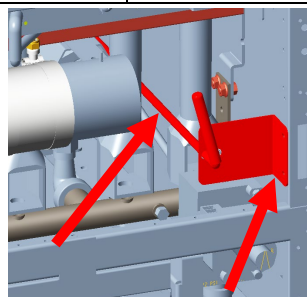

Figure 2
5. Insert the new rear oil disposal assembly into position. The handle should slide between the two far-right burners under the far-right vat in the fryer battery (see Figures 2 & 4). The bracket should be mounted to the right upright frame. (Note: It may be necessary to drill 5/32" pilot holes to attach the screws.)